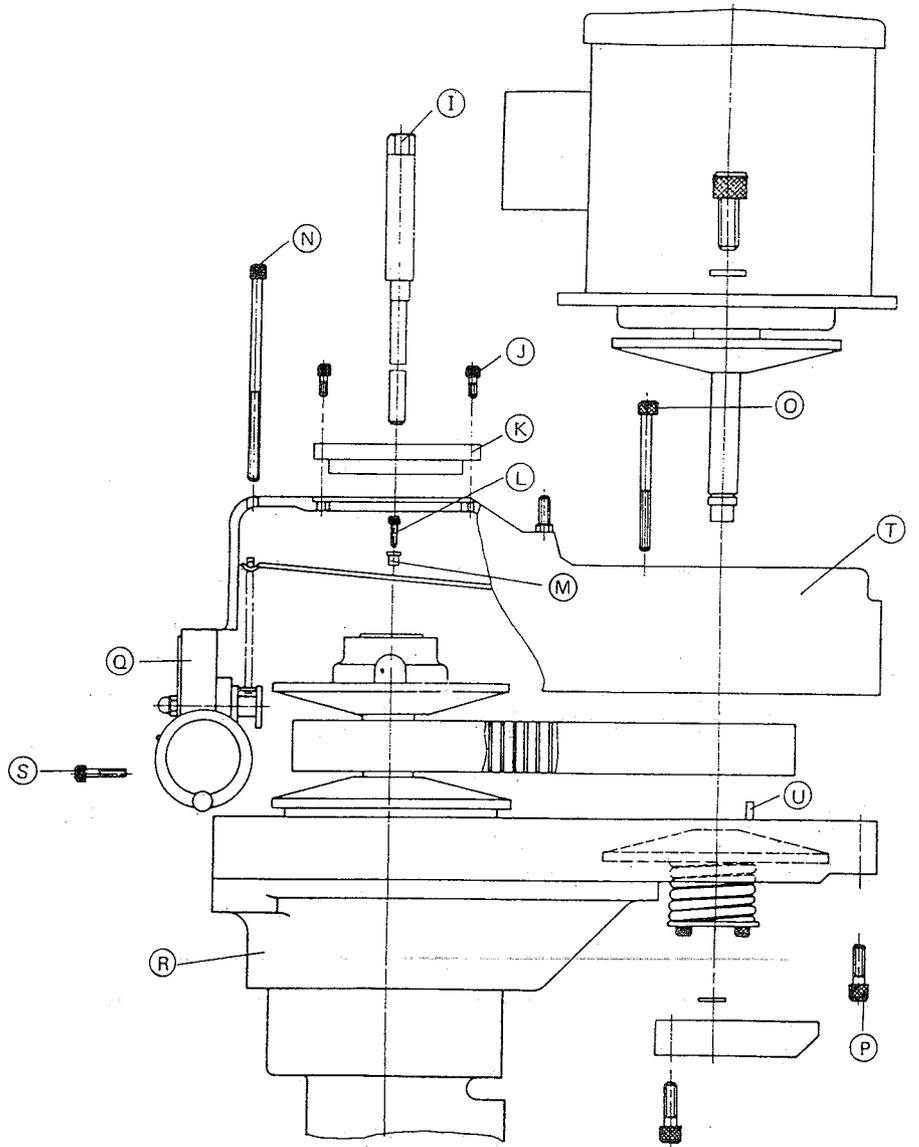

Figure 18
**(2) Replacement of Speed Change Belt (as shown in Figure 18):**
- c. Dismantle the three hexagonal concave bolts (j) and use two of them (j) to life the bearing housing (K).
- d. Remove from top the two hexagonal concave bolts (L), fixing the speed change plate, and take off the bolt sleeves (M).
- e. Dismantle four hexagonal concave bolts (N)(O) and the two at the bottom (P).
- f. Take off the two hexagonal concave bolts (S) speed change housing (Q) and gear housing (R).
- g. Use a mallet and hit the upper belt housing (T) lightly so that it will break away from the fix pin (U) for dismantling of the upper belt housing.